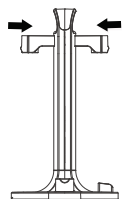

Fig 1
1. Insert the tool mounts into the base stand (Fig 1) till they "click".